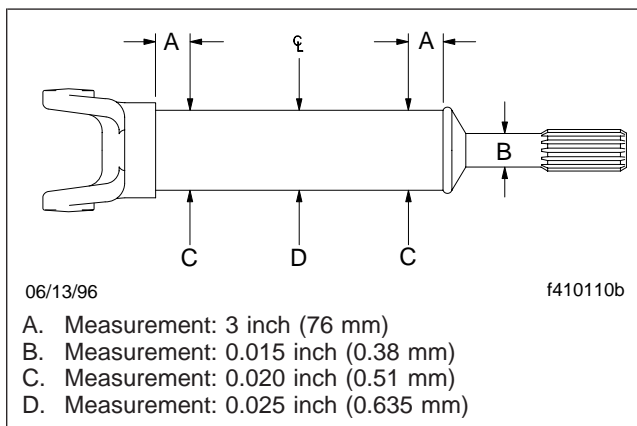

Fig. 3, Driveshaft Runout Specifications
6. Visually examine the driveshaft tubes for dents, bends, twists, or other damage. If any tube appears to be damaged, remove the driveshaft and check the run-out on the tube. If the tube is not straight (and cannot be straightened within 0.015 inch [0.38 mm] on the slip-joint-seal surface of the splined shaft, 0.020 inch [0.51 mm] on the tube 3 inches [76 mm] from the front and rear welds, and 0.025 inch [0.635 mm] at the center of the tube), replace the tube. See Fig. 3.